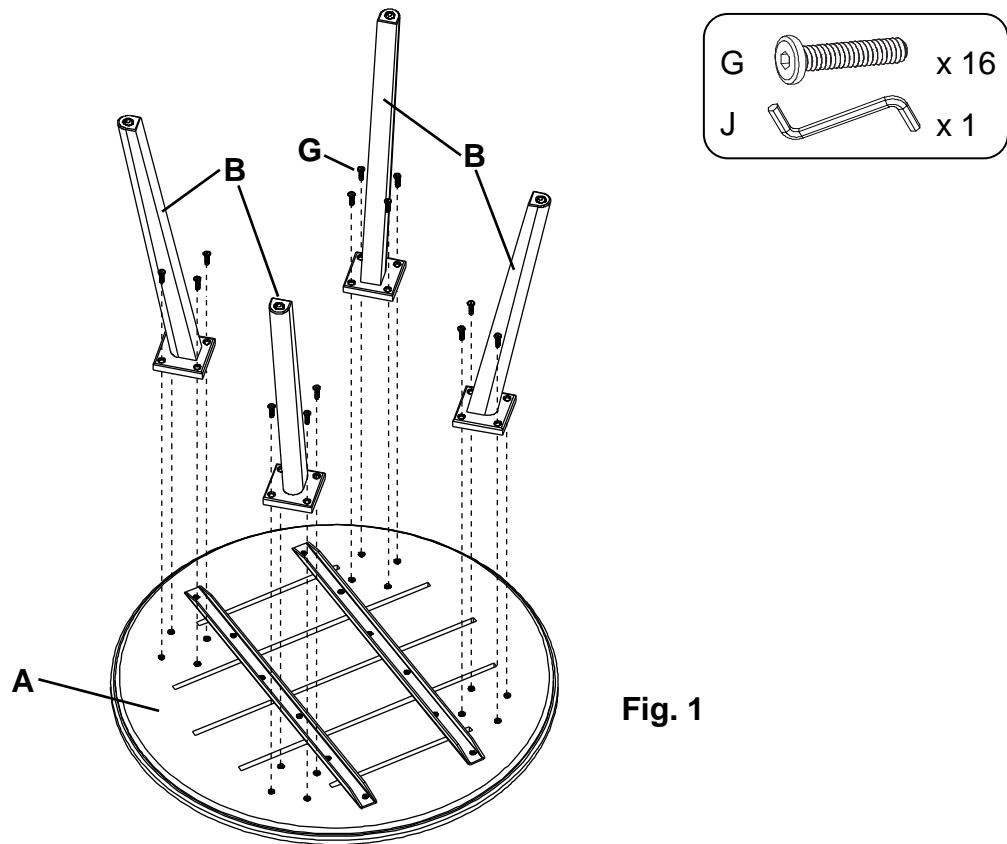

Fig. 1
1. Turn the Top Assembly (A) upside-down on a clean, protected surface. Attach four Legs (B) to the Top Assembly (A) with sixteen 5/16" x 30mm Hex Bolts (G). See Figure 1.